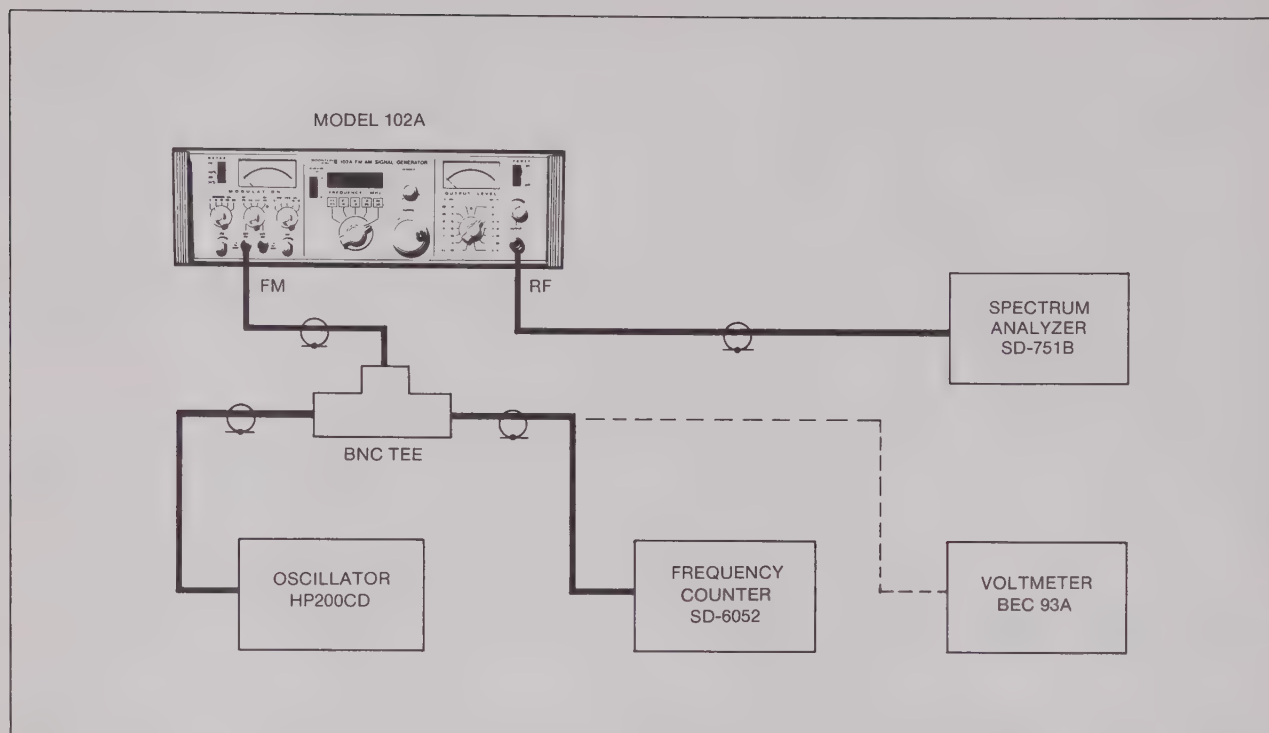

Figure 2-20 FM Sensitivity Check, Test Setup
1. Connect the Model 102A and test equipment as shown in Figure 2-20.